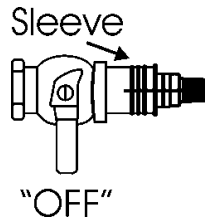

Fig. 5-5
- Push plug until the sleeve snaps forward, locking the plug into the socket. (Fig. 5-5)